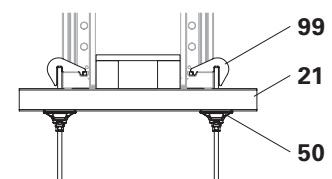

Fig. E7.04b
- Waler 85 (21) with Bulkhead Tie MX/TR (99) and Wingnut Pivot Plate DW15 ga (50). (Fig. E7.04b)